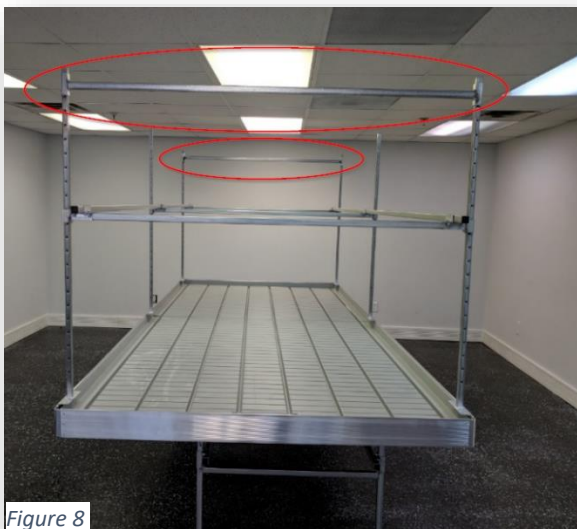

Figure 8
7. Then take the stabilizer plant support crossbars (**PS2**) and slide them down from the opening of the upright posts (just as you did with the standard ones). See *Figure 8*.